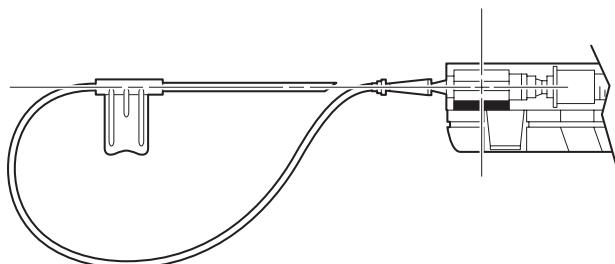

Figure 5
6. Bring the catheter tip (slit end) to the same height as the disposable diaphragm. See Figure 5. The display should read -8 to +9 mmHg.